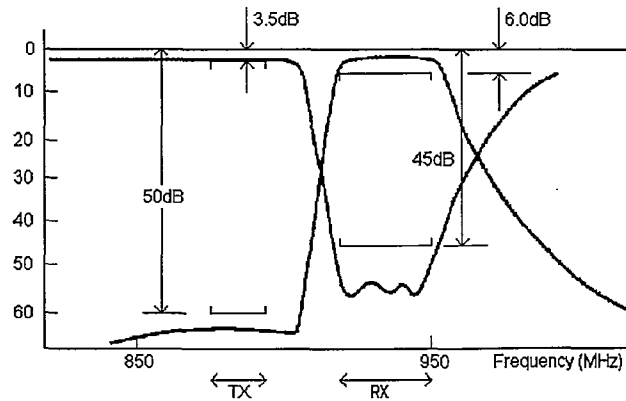

Figure 2.3-1: Attenuation of duplexer
4. Reduces single signal interference. The attenuation characteristics of the duplexer are shown in Table 2.3-1 and Figure 2.3-1.